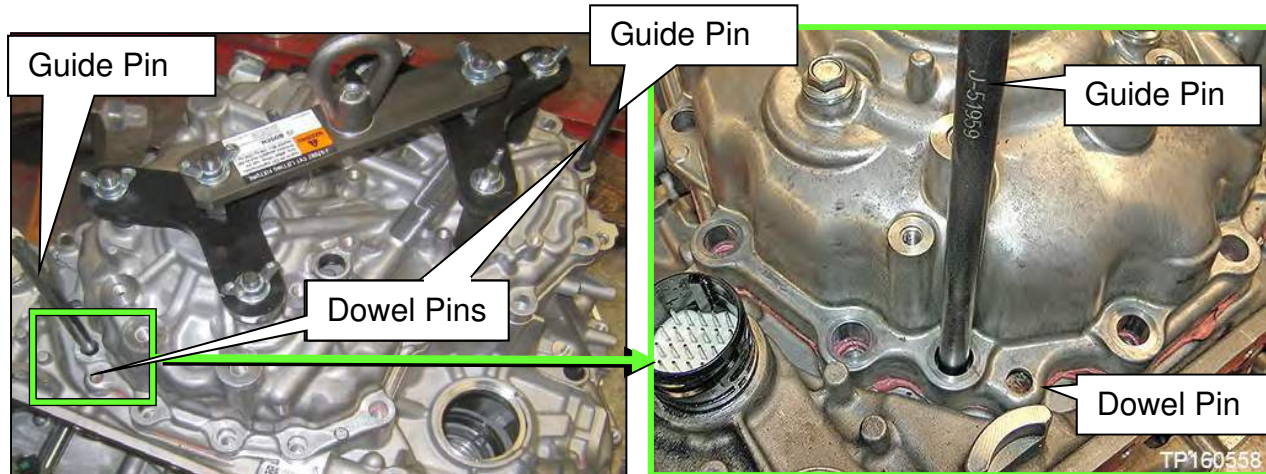

Figure 79
55. Install the two CVT Assembly Guide Pins (J-51959 - Guide Pins) as shown in Figure 79 and Figure 80.
NOTE: Guide pin locations are shown in Figure 79 on page 36.